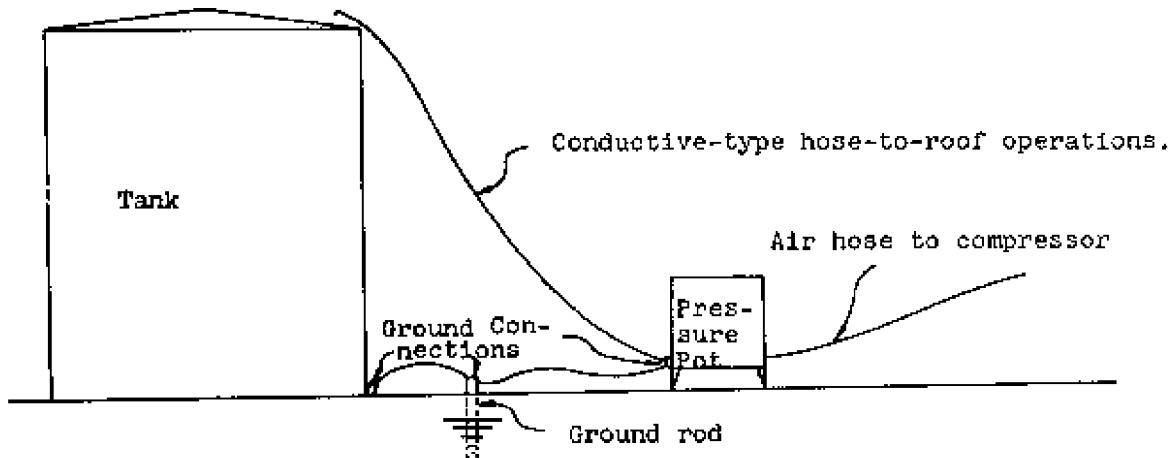

FIGURE 3-26
(2) Conduct a hydrostatic test at least once, preferably twice a year. Test safety relief valves daily.
(3) Use conductive hose. Ground nozzles, tanks, and pressure equipment when in use, also object to being sprayed. (See Figures 3-26 and 3-27.)
(4) Store hose in dry areas. when in use, avoid sharp bends, especially when curved around an object. Secure high pressure hose no more than 10 feet from operator.
(5) Never point the gun or nozzle at anyone or any part of the body. When handling or carrying, hold by the grip and remove fingers from the trigger.
(6) Release all pressure before disconnecting any part of the equipment.